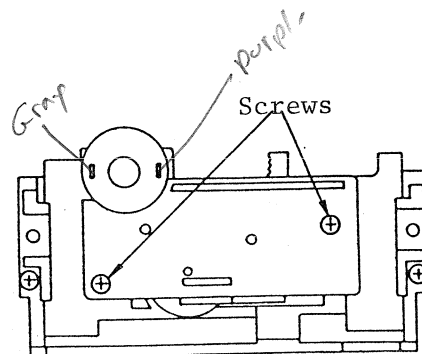

Fig. 8
- 2.5 To remove the geartrain, remove two screws (Fig. 8).